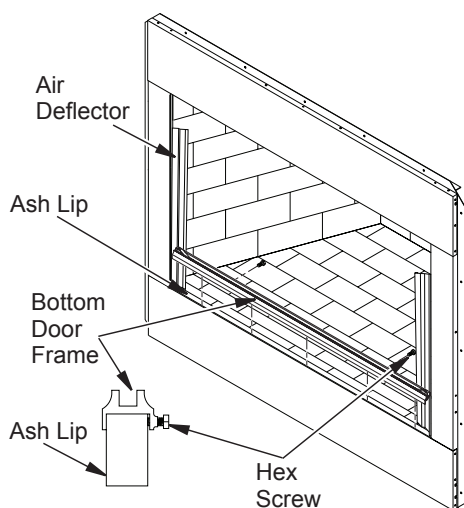

Figure 31 - Installing Bottom Door Frame and Air Deflector
Slide air deflector in between the front side face and side brick panel (see Figure 31, page 17). The notched end of the deflector sits on bottom hearth. Air deflector does not require any fastening.
The front side faces and side brick panels will hold the deflector in place (see Figure 31, page 17).
3. Place bottom door frame on top of ash lip at front of fireplace (see Figure 31, page 17).
4. Secure bottom door frame to brick with two hex screws provided as shown in Figure 31, page 17 using a 7/16" open end or adjustable wrench.